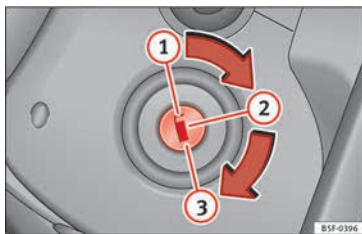

Fig. 185 Ignition key positions.
» **Fig. 185.**
- Remove the key from the ignition in position ① » **Fig. 185** » **⚠.**